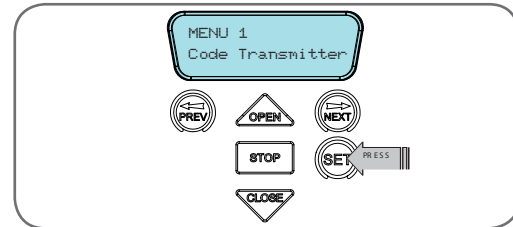

fig 24
1. Press NEXT to navigate to Menu 1 (Fig. 24) .